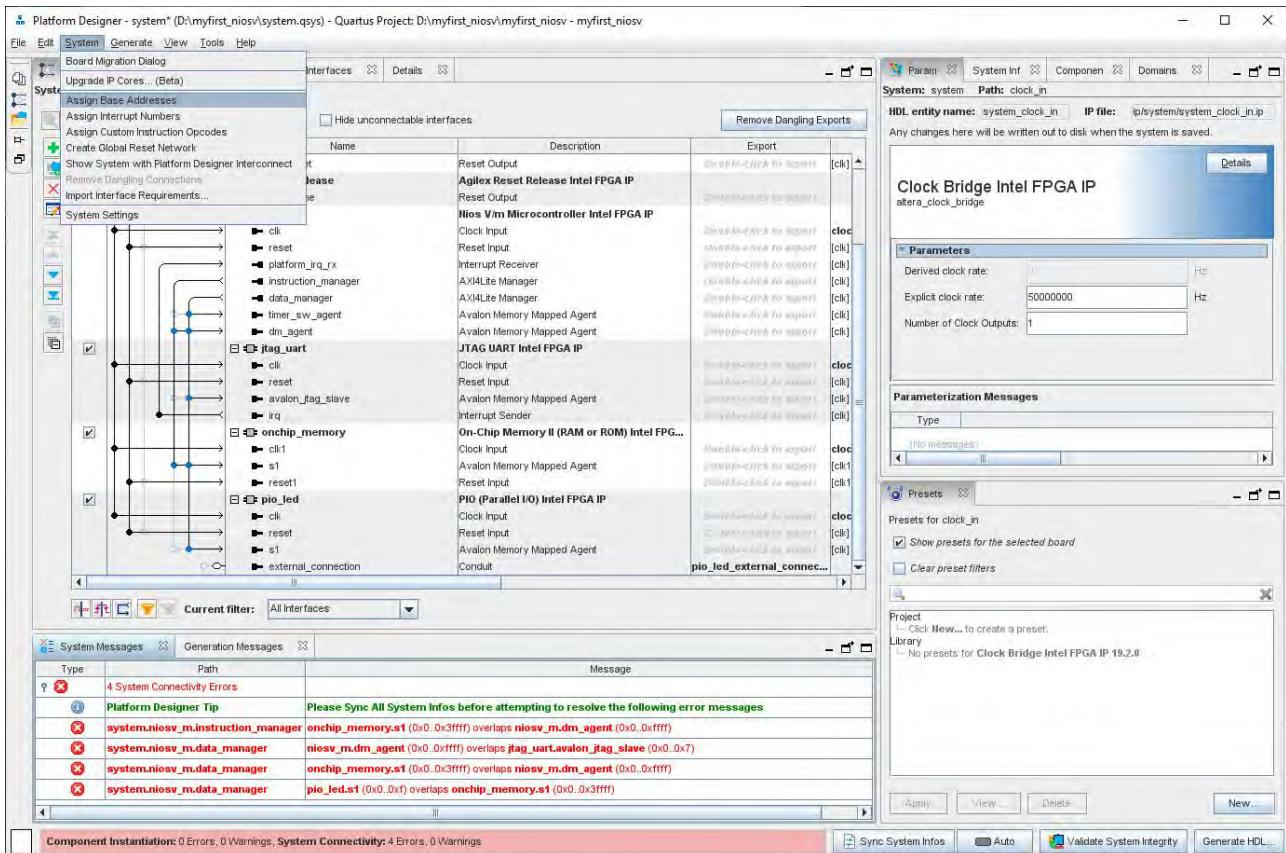
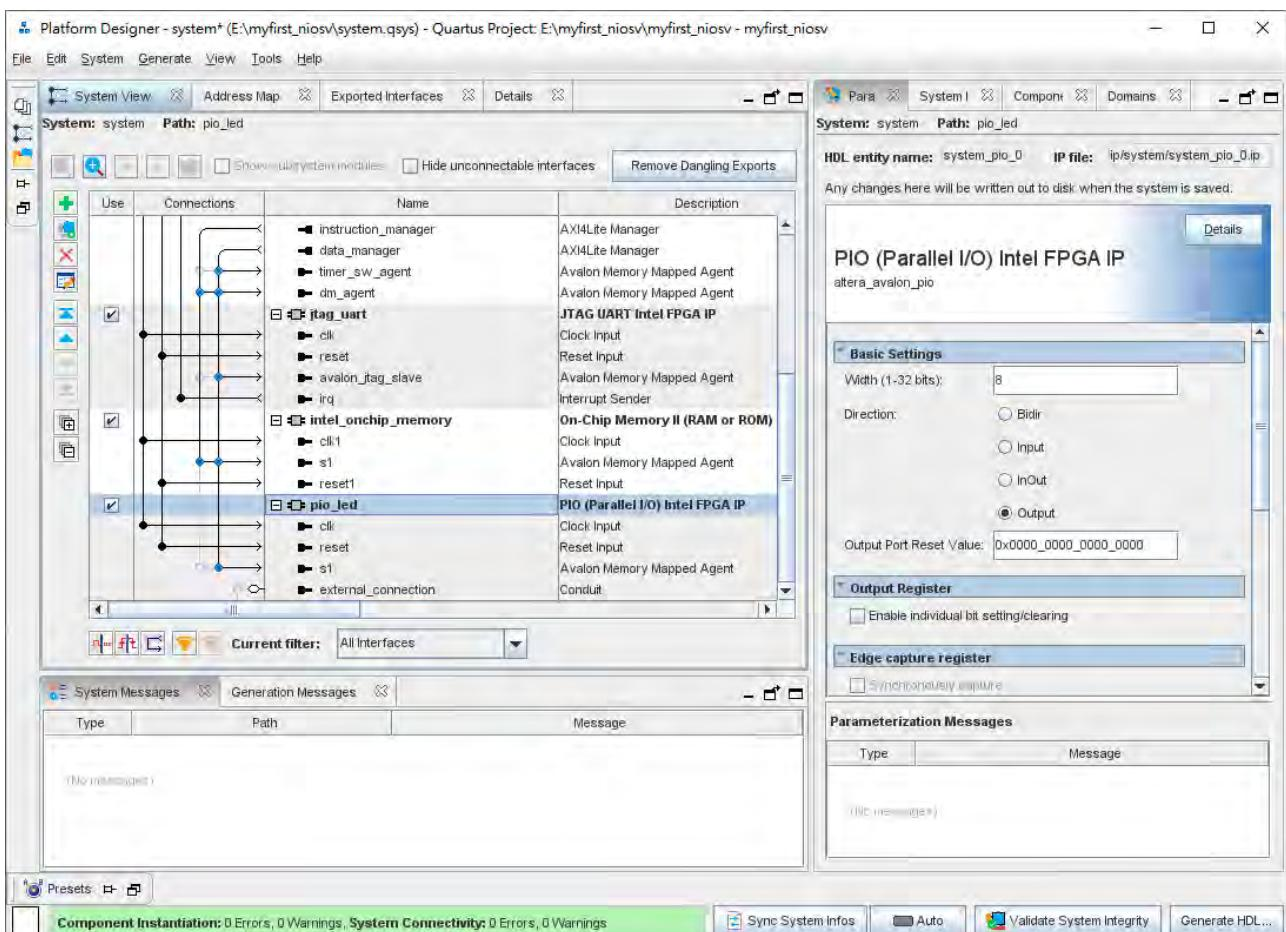

Figure 2-24 Assign Base Addresses
Figure 2-25 No errors or warnings
1. Choose **System > Assign Base Addresses** as shown in Figure 2-24. After that, you will find that there is no error in the message window as shown in Figure 2-25.